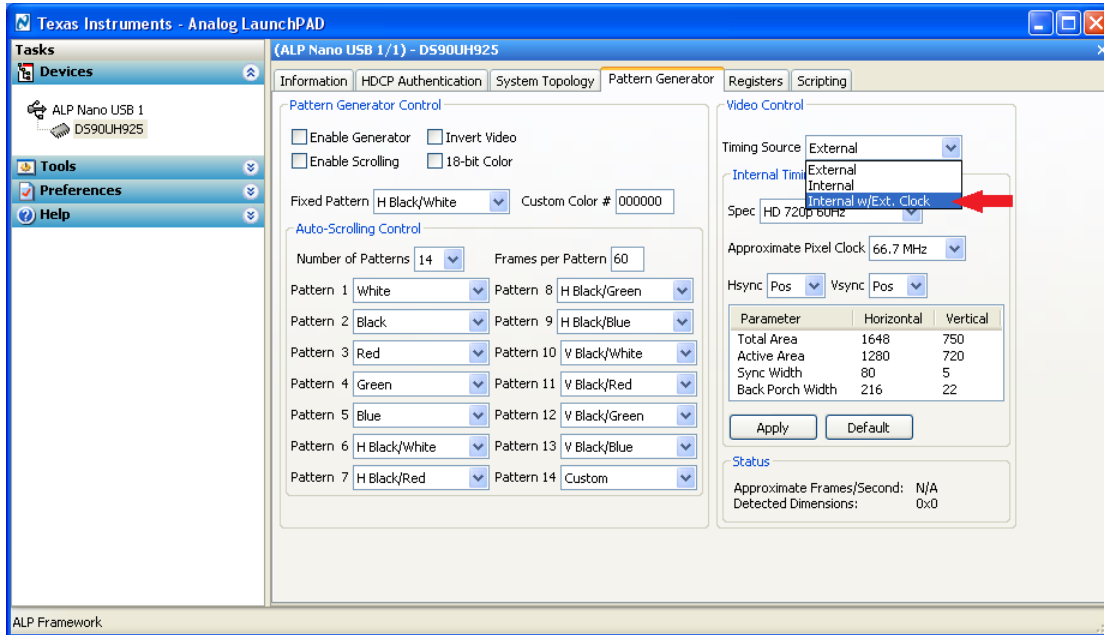

Figure 4-2. Timing Source ⁽⁹⁾ ⁽¹⁰⁾
- Under **Video Control**, select **Timing source** as **Internal** or **Internal w/Ext. Clock** as shown in **Figure 4-2**.